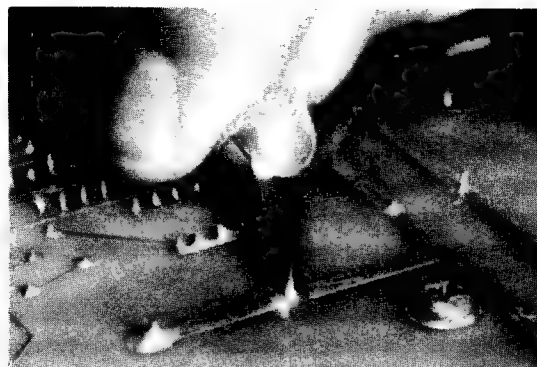

Figure 45 Correct Way to Cut a Trace
**Correct:** During troubleshooting you may have to cut a trace. Use an X-Acto knife and follow the technique shown in Figure 45. Notice the angle of the knife, and how the knife has undercut the trace, leaving an overlapping section of foil. This makes it easier to resolder when you rejoin the connection.